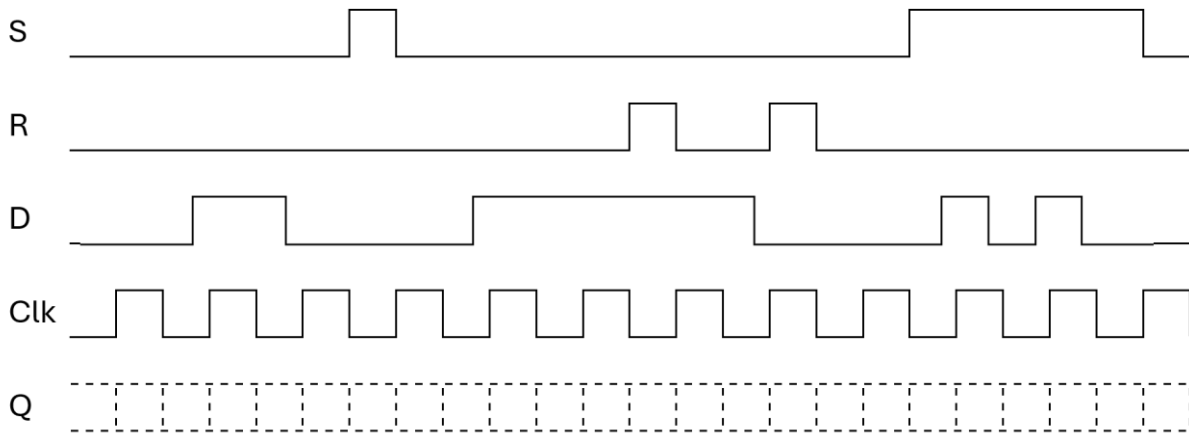

Figure 25
d) Complete Q for the inputs D, S and R as shown in the timing diagram in Figure 25.